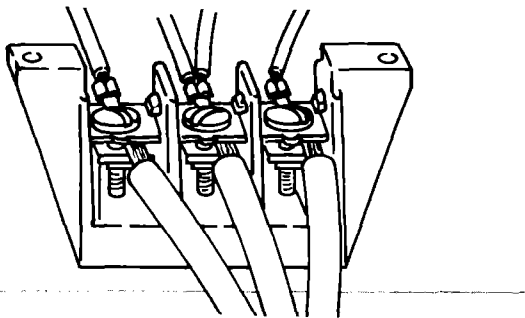

Figure 18
- g. Connect the neutral wire of the flexible armored or non-metallic sheathed copper power supply cable to the center silver-colored terminal screw of the terminal block and connect the other wires to the outer terminals. See Figure 15. For connecting plain-end field wire, see Figure 18.
- g. Connect the neutral wire of the power supply cable to the center silver colored terminal of the terminal block and connect the other wires to the outer terminals. See Figure 16. For connecting plain-end field wire see Figure 18.
9. Connect the neutral wire (white) of the power supply cord to the center silver-colored terminal screw of the terminal block and connect the other wires to the outer terminals. See Figure 17. For connecting plain-end field wire, see Figure 18.
NOTE: The terminal connections at the dryer terminal block are suitable for connection of No. 10 copper wire only. Plain-end field wires must be fastened between the terminals of the terminal block and the nuts of the terminal block screws as shown in Figure 18.